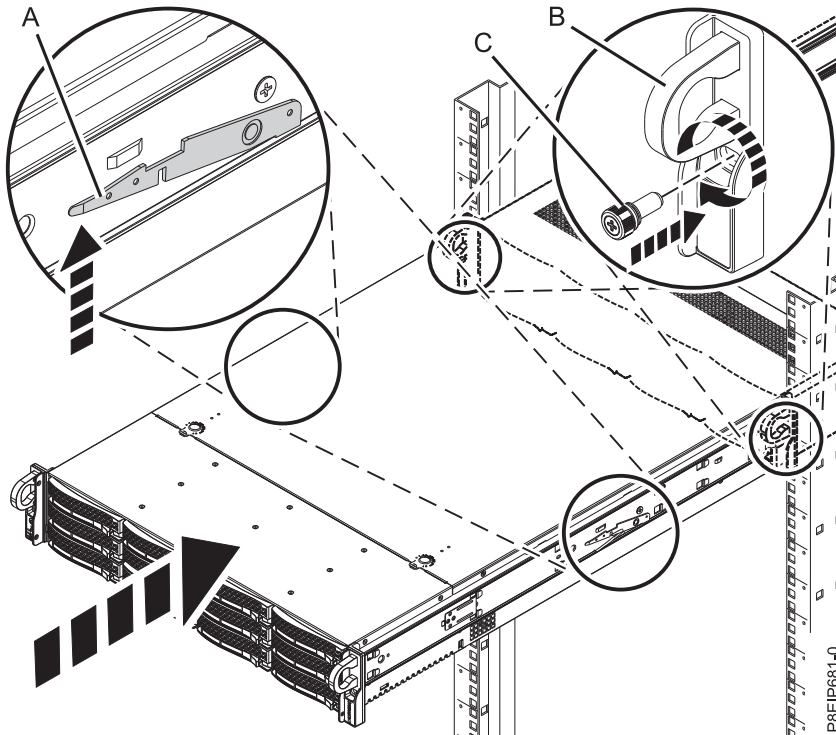

Figure 99. Placing the system into the operating position
4. Release the rail safety latches (A) by lifting them upward, as shown in Figure 99 on page 94, then push the system fully into the rack.